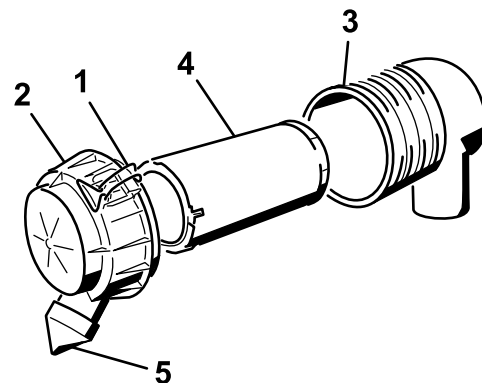

Figure 26
3. Release the latches on the air cleaner and pull the air-cleaner cover off the air-filter body (Figure 26).
6. Gently slide the filter out of the air-filter body (Figure 26).
- Carefully install the filter (Figure 26).
- Install the air-cleaner cover with the dust cap oriented downward and secure the latches (Figure 26).